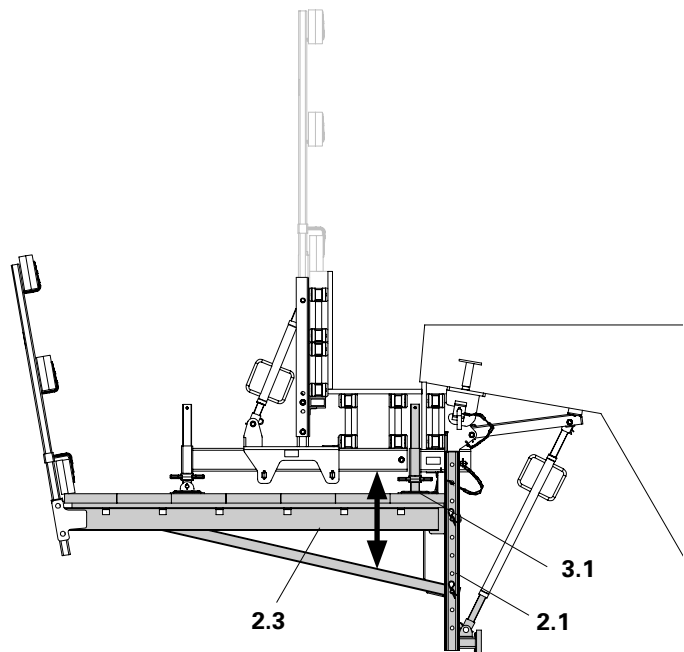

Fig. A4.01b
- The Platform Cantilever Beam VGK 170 (2.3) is connected to the holes on the Bracket Post (2.1) according to the dimensions of the Cantilevered Parapet. (Fig. A4.01b)